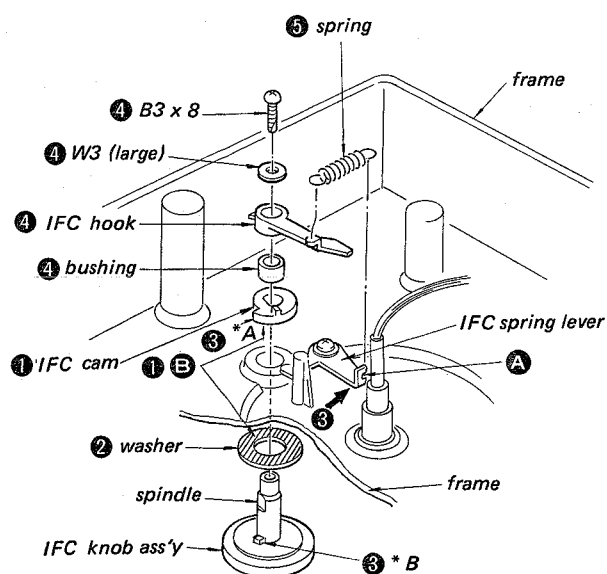

Fig. 2-10
- ① Smear the shaded portion (B) of the washer and the IFC cam with grease.
- ② Install a washer in the IFC knob ass'y.
- ③ Set the marked point (*A) of the IFC cam as shown in Fig. 2-10. Install it through the frame and set it with the IFC cam. Be sure that the two marked points (*A & *B) coincides. (Place the IFC spring lever in the direction of the arrow when performing this installation.)
- ④ Place the bushing, IFC hook and washer (W3) on the spindle and fasten them with screw B3 x 8.
- ⑤ Connect the IFC hook and the IFC spring lever with a spring and apply a bond at point (A) of the lever.
- ⑥ After the installation has been completed, be sure that the IFC hook moves on its own.